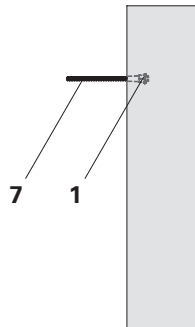
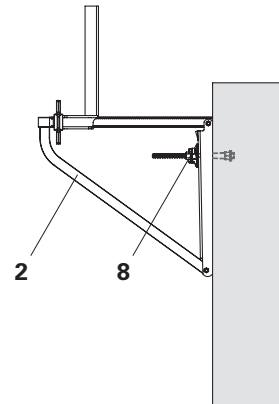

Fig. A2.02
Fig. A2.03
1. Screw the Tie Rod B 15, L = 0.30 m (7) into the Stopend Sleeve DW 15 (1). (Fig. A2.02)
2. Position Formwork Bracket-2 (2) in the specified place.
3. Fasten Formwork Bracket-2 (2) with Wingnut Counterplate DW 15 (8) and firmly tighten Wingnut Counterplate DW 15 (8). (Fig. A2.03)